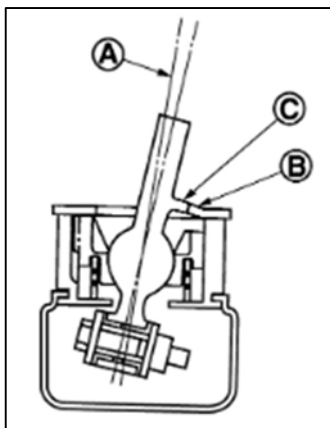

Figure 119
- Move the shifter guide plate (B) against the shift selector tab (C) shown in Figure 119